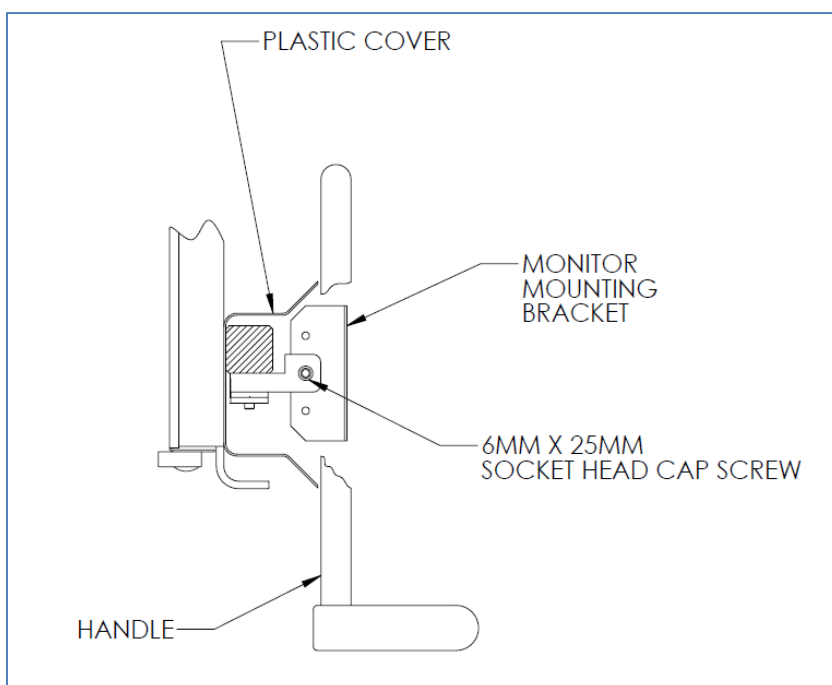

Figure 8
1. To attach a monitor to the system, first install mounting screws into the top two holes in the monitor leaving a gap below the head of the screw big enough to fit over the mounting bracket to which it is being mounted. Mount the monitor onto the mounting bracket by sliding top mounting screws into the slots on the top of the mounting bracket. Insert bottom mounting screws through mounting bracket and into monitor and tighten all four monitor mounting screws. See Figure 8.